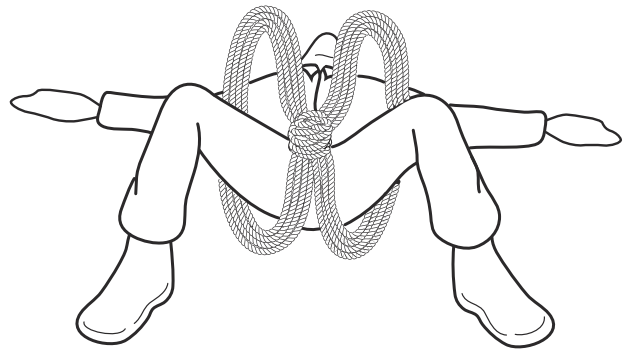

Figure 9-2. Rope Coil Carry Rope Placement.
- The bearer separates the loops of the mountain coil into two approximately equal groups and then slips one-half of the coil over the casualty's left leg and one-half over his right leg so that the wraps holding the coil are in the casualty's crotch and the loops extend upward toward his armpits. See figure 9-2.